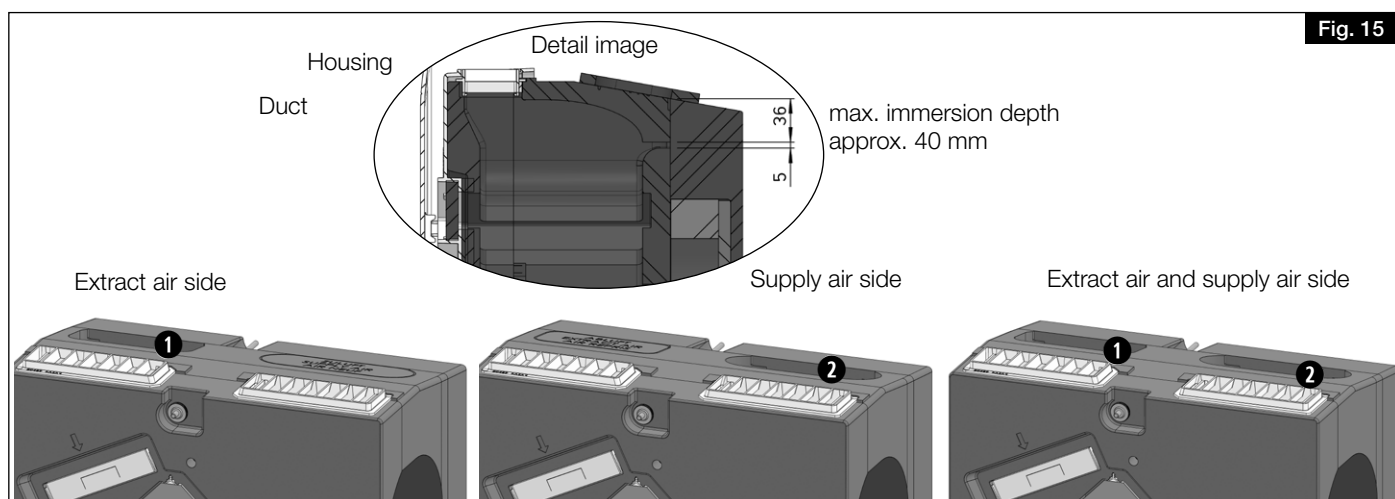

Fig. 15
1. Cut open the extract air ❶ and/or supply air duct ❷ in the EPP housing. Ensure that a pocket knife (with a fixed blade, see detailed image for maximum cutting depth) is used carefully along the groove to avoid damaging the housing (see Fig. 15).